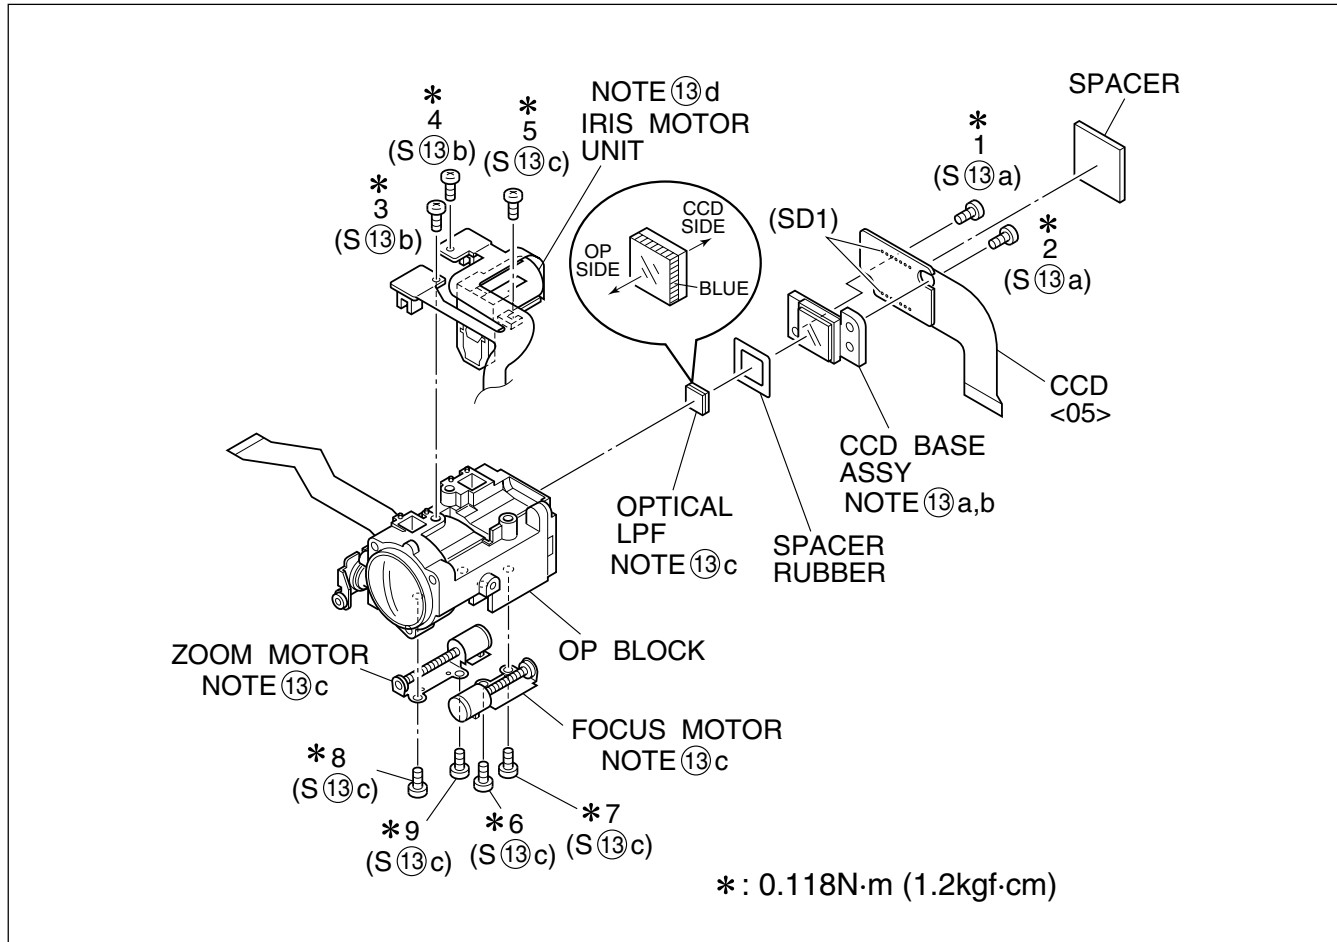

Fig. 1-6-1
NOTE ⑬b: Refer to Fig. 1-6-1 for the disassembly method.